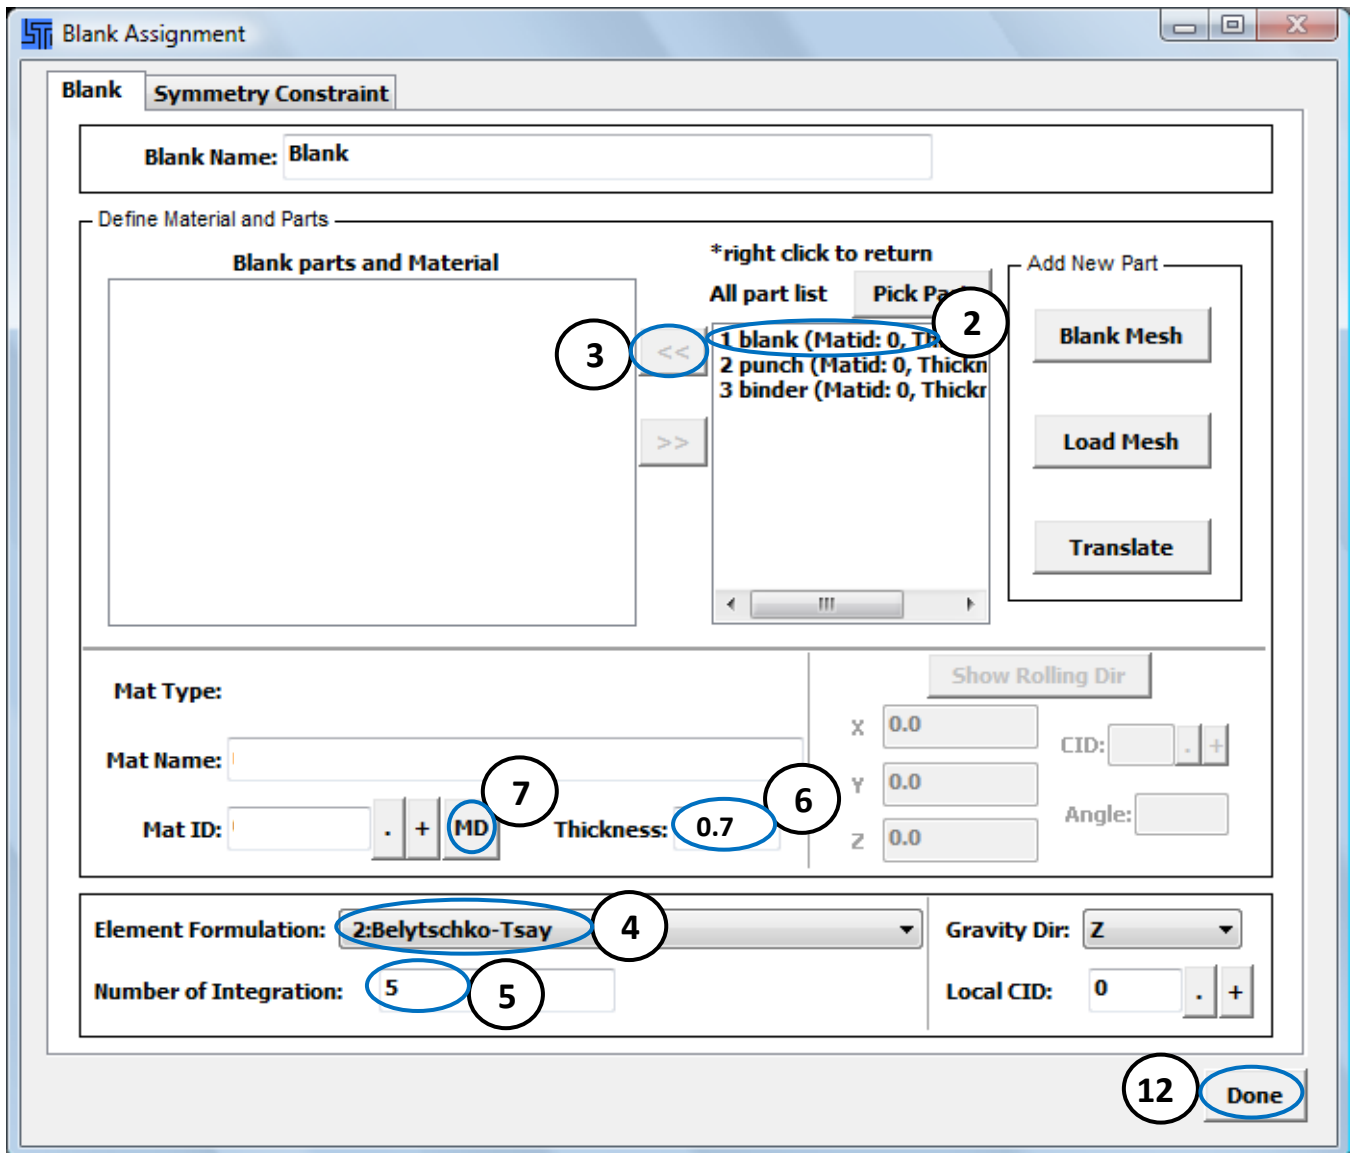

Figure 4
click *Blank* in the side panel (launches Blank Dialog shown in Figure 4)
- click *Done* (Figure 4)